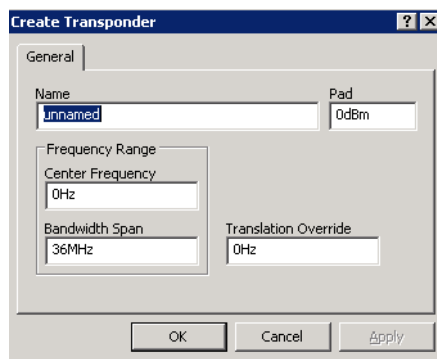

Figure 3-15 Create Transponder dialog
2. Enter the transponder **Name**, **Center Frequency**, and **Bandwidth Span** in the Create Transponder dialog (figure 3-15).